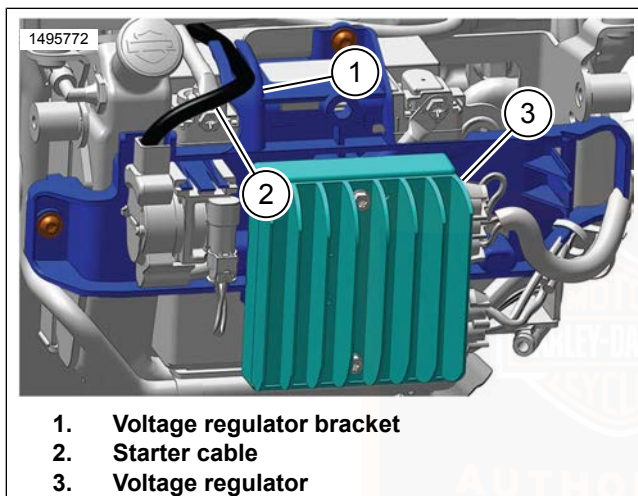

Figure 81. Negative Cable Bracket
- a. See Figure 81. Route starter cable (2) in bracket (1).